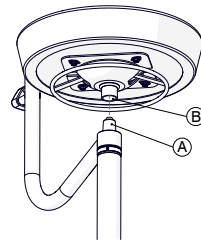

Fig.15
- Introduce the TD-600 seat positioning hole **B** (Fig.15) through the piston axle **A** (Fig.15).